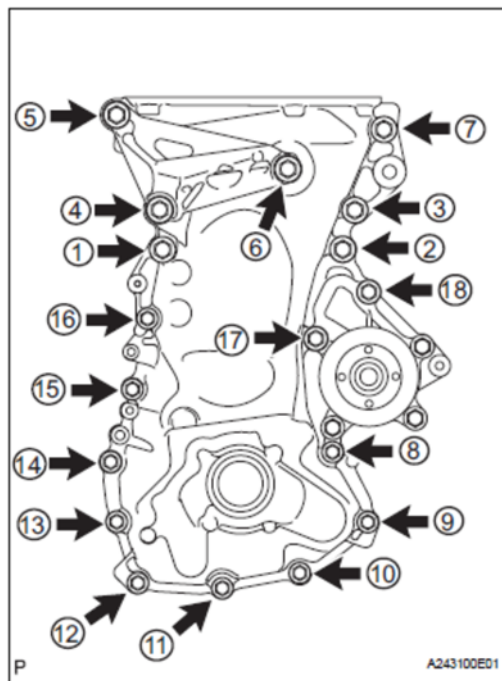

Figure 20
Refer to Figure 20:
7. Tighten the eighteen (18) bolts to the target torque in the sequence shown.
- Note: Stock front cover is displayed in Figure 20 for illustration purposes only. OHT modified front cover should be used.**